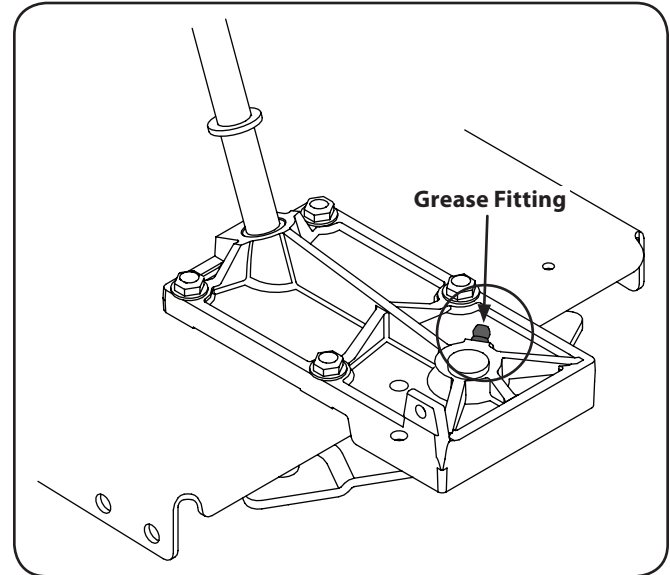

Figure 6-6
2. Locate the grease fitting for the steering housing under the battery. See Fig 6-6.